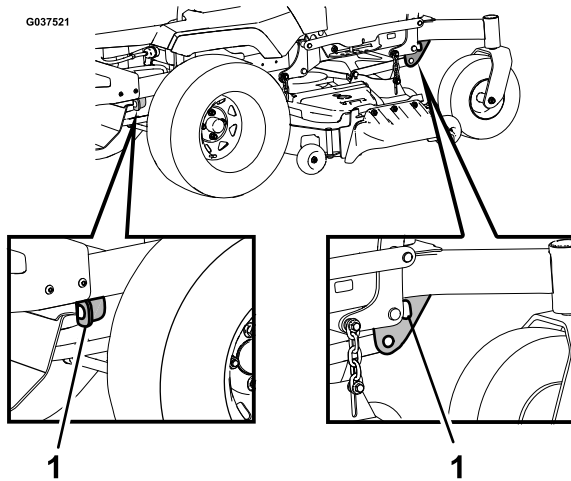

Figure 21
- Securely fasten the machine to the trailer or truck with straps, chains, cable, or ropes. Only use the four designated tie-down locations on the mower—two on the left side and two on the right (see Figure 21). Use these locations even when transporting the mower with an attached accessory. Using non-designated locations may cause damage to the mower and/or attachment.